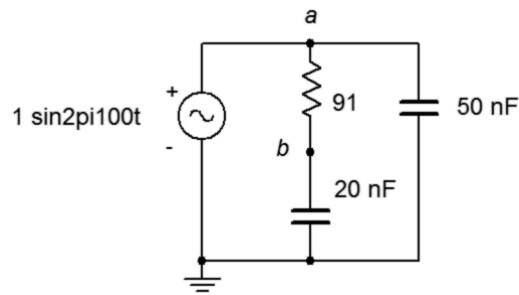

Figure 4.9
11. For the circuit of Figure 4.9, determine the source current and the current through each of the components.
12. For the circuit of Figure 4.9, determine voltages v_{ab} and v_b . Also, draw a phasor diagram of E , v_{ab} and v_b .
35. Determine a new value for the 20 nF capacitor in Figure 4.9 such that the resistor current is 2 mA.
41. Given the circuit of Figure 4.9, determine the frequency at which v_b is half of the source voltage.